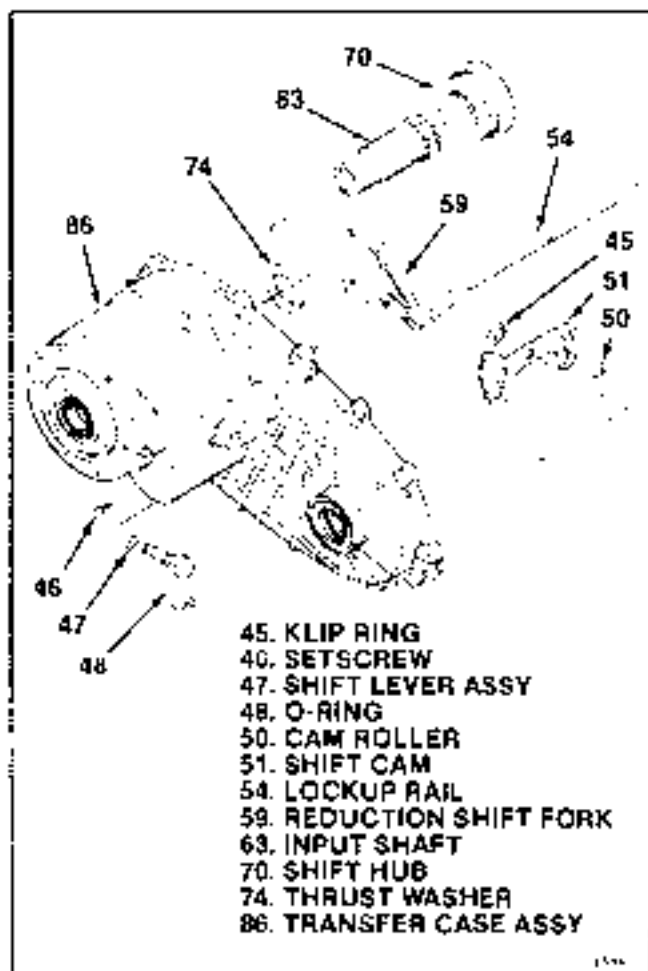

Figure 5-8 Installation of Reduction Shift, Carrier and Input Shaft Group
**5-9. INSTALLATION OF REDUCTION SHIFT CARRIER AND INPUT SHAFT GROUP IN TRANSFER CASE.** Position transfer case and lower output shaft assembly (78 through 95) on work bench, input face of case up. Use wooden blocks under lower output yoke to keep line of rail aligned. Proceed as follows (see figure 5-8):
a. Apply petroleum jelly to thrust washer (74) to help hold in place and center on bushing in transfer case assembly (86).